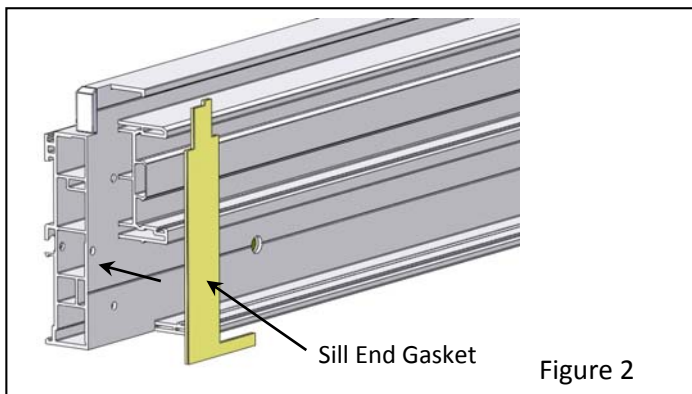

Figure 2
- 3) Clean any dirt or debris from the end surfaces of the side jambs. Remove the frame gaskets (located in hardware package) from the paper backing and carefully place them on each end of the side jambs as shown. **NOTE:** The gaskets for the sill end (Fig. 2) are different from those for the head end (Fig. 3). If gaskets are damaged, do not install them and call your Simonton dealer for further instructions. Proper gasket alignment is critical to prevent water from entering through the frame corners.